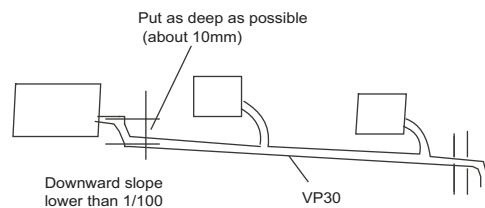

Fig. 17 —Using a Main Drain to Serve Multiple Indoor Units
- Condensate piping should slope downward in the direction of condensate flow with a minimum gradient of 1 inch per 100 inches. See Fig. 17.